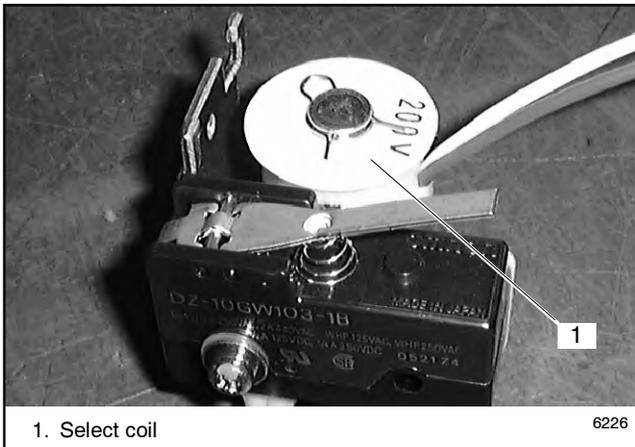

Figure 7-20 Select Coil
- Replace the select coil. See Figure 7-20.